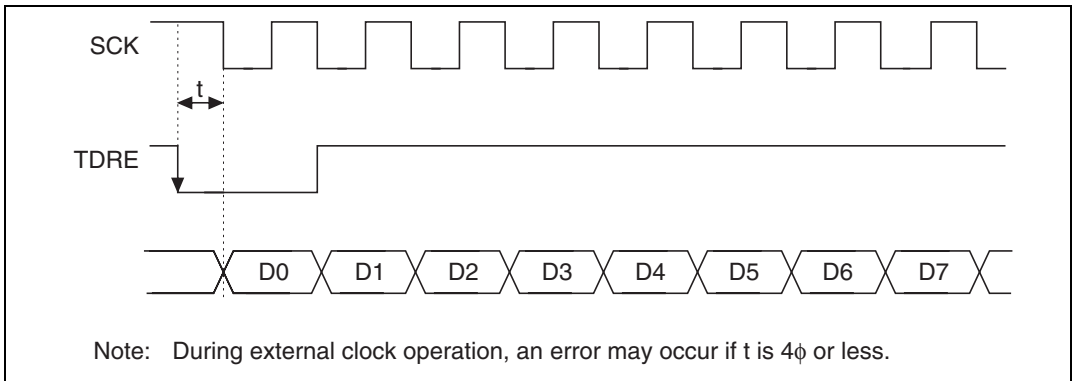

Figure 12.22 Example of Clock Synchronous Transmission with DMAC
- When using an external clock source for the synchronization clock, update the TDR with the DMAC, and then after five system clocks or more elapse, input a transmit clock. If a transmit clock is input in the first four system clocks after the TDR is written, an error may occur (figure 12.22).